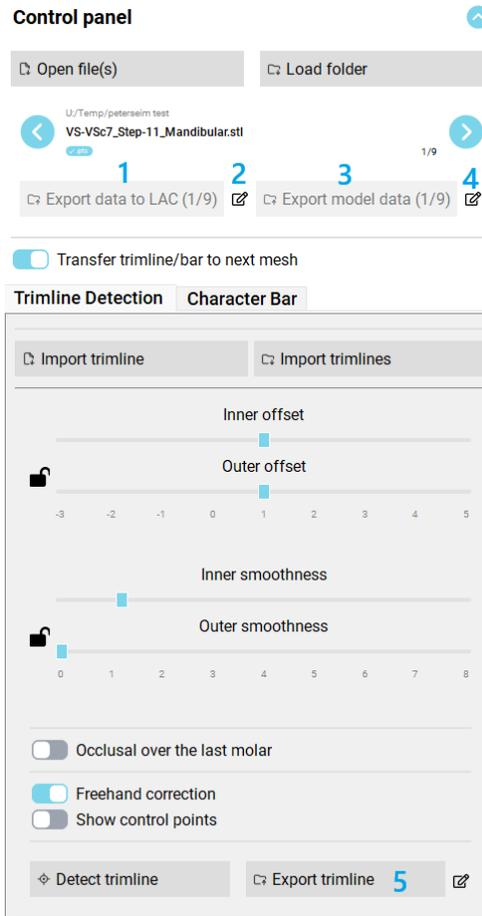
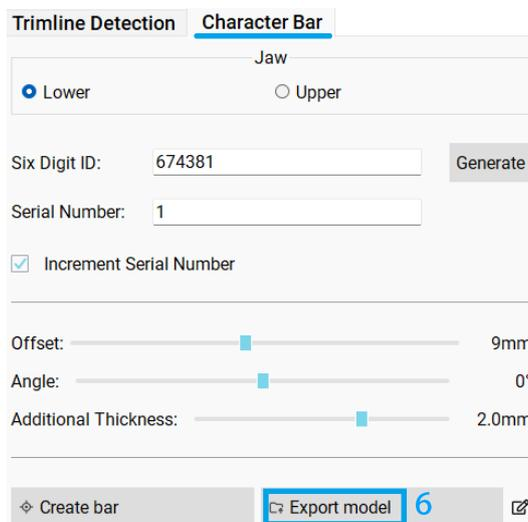

Figure 11
Figure 12
You have an export button in each menu, which always only exports the current trimline or model, see *Export trimline* (5) (Figure 11) and *Export model* (6) (Figure 12).
The icon on the right of each button (e.g. 2 & 4 in Figure 11) allows you to set the storage path. If no storage path has been set, the folder dialogue is automatically displayed. The storage location is then saved permanently for this button.
If you load a folder, two additional export buttons appear (1 & 3) (Figure 11). As soon as all trimlines are defined you can *export the data directly to LAC* (1). As described above, the target directory (of the network folder of the LAC) can be permanently saved. The STL file is exported to this folder as well, as the LAC always requires a matching STL and PTS pair. This should also simplify the copying of data back and forth.